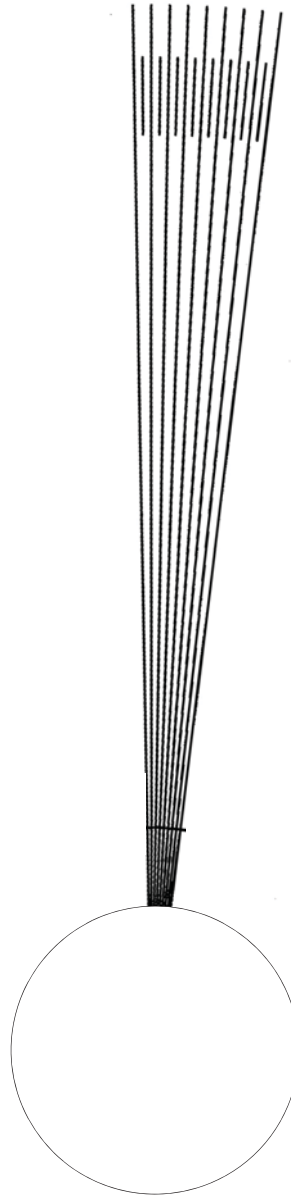
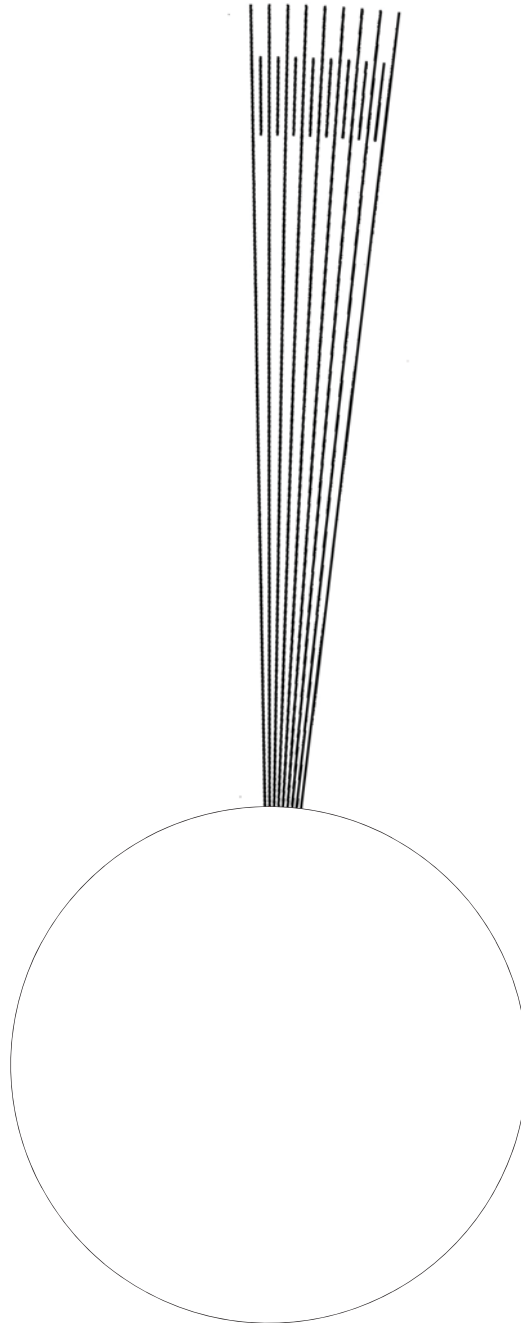

Figure 1A. Template for Models MFP-262 and MFP-263
Figure 1B. Template for Models MFP-264-1 and MFP-264-2
- B. Cut out a template (see Figure 1A for MFP-262 and MFP-263, and Figure 1B for MFP-264-1 and MFP-264-2), which includes an arc of at least 6 degrees. The figures are of actual size and may be cut out and used for this purpose. Measurement lines should extend radially outward from the center at least 5.5 inches for adequate resolution. For clarity, it is recommended that major divisions be indicated every 1 degree, with minor divisions indicated every 0.5 degrees at a radius of 5.5 inches minimum. Paste the template to a relatively stiff backing, such as an index card, cardboard, or thin piece of aluminum. At the center, cut out the appropriate circle to fit snugly around the pump mounting pilot diameter.